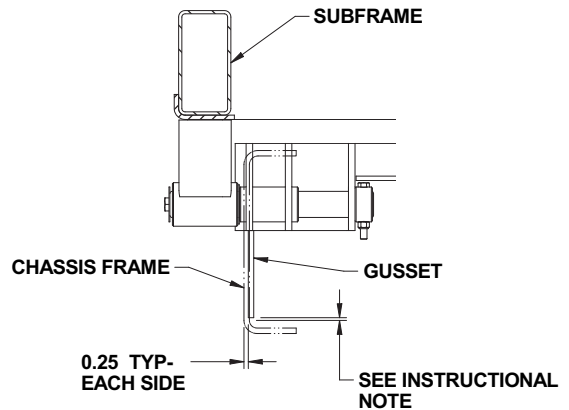

Figure 5 - Trunnion Gusset Installation
5. Set one gusset with the end of the chassis frame below the trunnion lug and offset 1/4" from the side of the chassis frame as shown in Figure 5. Repeat for the opposite side.